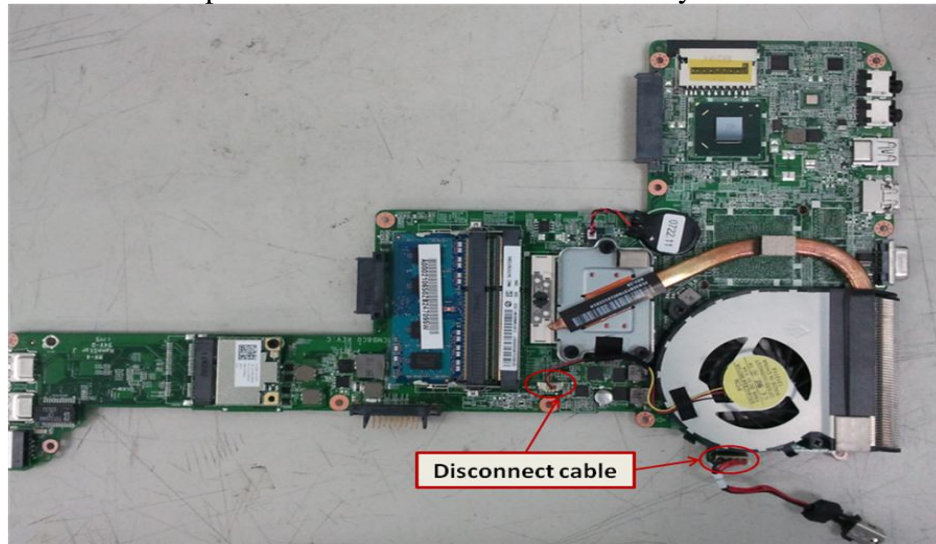

Figure 4-11-1 Disconnect the power cable and fan cable
The following describes the procedure for removing the system board (See Figure 4-11-1 to 4-11-2).
3. Remove system board from the top assembly. (See Figure 4-11-1 to 4-11-4)